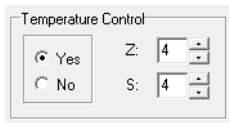

Figure 5-28: Setting tray temperatures.
16. Set the tray temperature (Figure 5-28). ProteinSimple recommends cooling the sample and buffer trays to 4 °C.